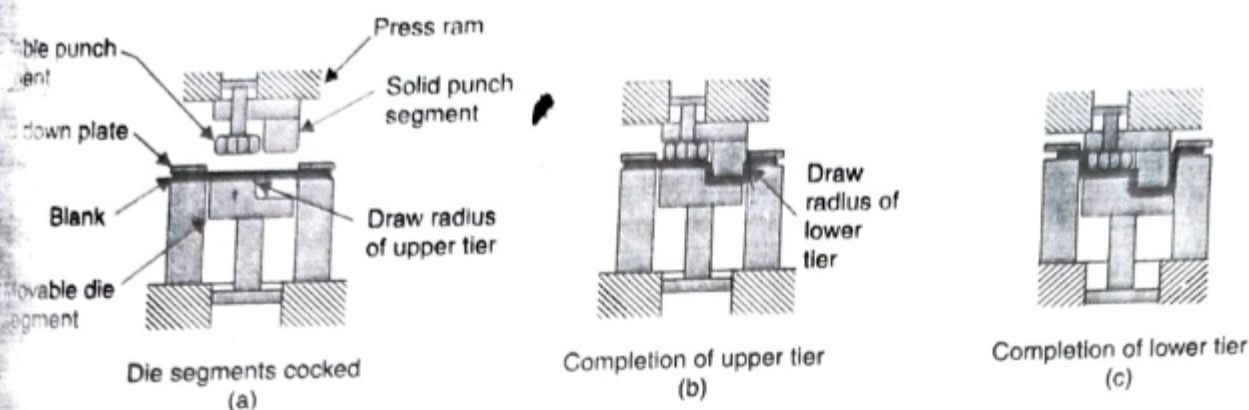

Fig. 3.50. Multi-action dies.
- In this setup (Fig 3.50) the entire sheet is held between tooling plates at all times. Unsupported metal does not flow with the punch as it does in conventional tooling. The multiple, matched dies are made so that segments can be timed to move for an optimum forming sequence. The tools are mounted in a conventional hydraulic press, which is programmed to activate independent, external hydraulic circuits.